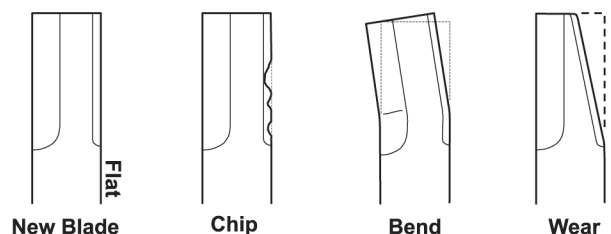
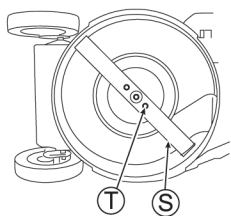

Fig. 32
Fig. 33
1. Confirm that there is no chip, bend, or wear with Blade (S). (See Fig. 32)
2. If Blade (S) or its mounting bolts (T) are "worn", "broken" or "deformed", exchange with new one(s) specified by us.
3. Confirm that Blade mounting bolts (T) are tightened by the specified torque. (See Fig. 33)
2. Fully tighten Blade mounting bolts (T) with hand.
4. Confirm that Blade mounting bolts (T) are tightened by the specified torque. (See Fig. 33)